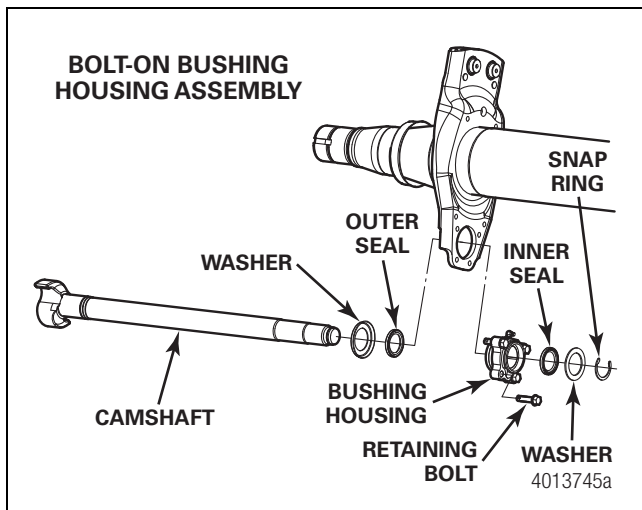

Figure 11.37
- 1. Remove the snap ring, camshaft and washers. Figure 11.37.
- 2. Remove the four retaining bolts from bolt-on bushing housing. Figure 11.37.
17. Install the camshaft, washers and snap ring. Figure 11.37.